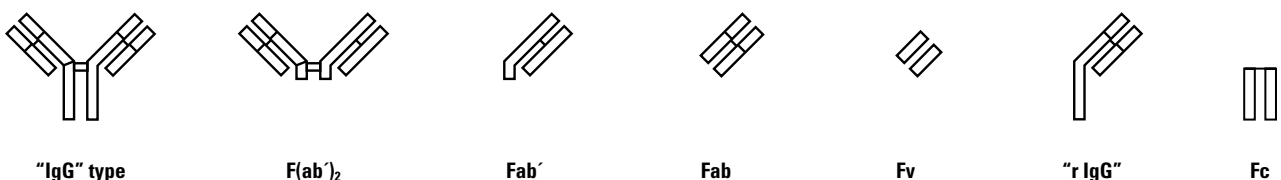

Figure 1. Structure of Fab, Fab', F(ab')₂ and Fv fragments.
F(ab')₂, Fab, Fab' and Fv are antigen-binding fragments that can be generated from the variable region of IgG and IgM. These antigen-binding fragments vary in size (MW), valency and Fc content. Fc fragments are generated entirely from the heavy chain constant region of an immunoglobulin. The structures of these antibody fragments are illustrated in schematic form in Figure 1 and summarized below. In addition, several unique fragment structures can be generated from pentameric IgMs, including an "IgG"-type fragment, an inverted "IgG"-type fragment and a pentameric Fc fragment. IgM fragmentation is discussed in detail on pages 52-53.
Fc (50,000 daltons) fragments contain the C_{H2} and C_{H3} region and part of the hinge region held together by one or more disulfides and noncovalent interactions (Figure 1). Fc and Fc5μ fragments are produced from fragmentation of IgG and IgM, respectively. The term Fc is derived from the ability of these antibody fragments to crystallize. Fc fragments are generated entirely from the heavy-chain constant region of an immunoglobulin. The Fc fragment cannot bind antigen, but it is responsible for the effector functions of antibodies, such as complement fixation.